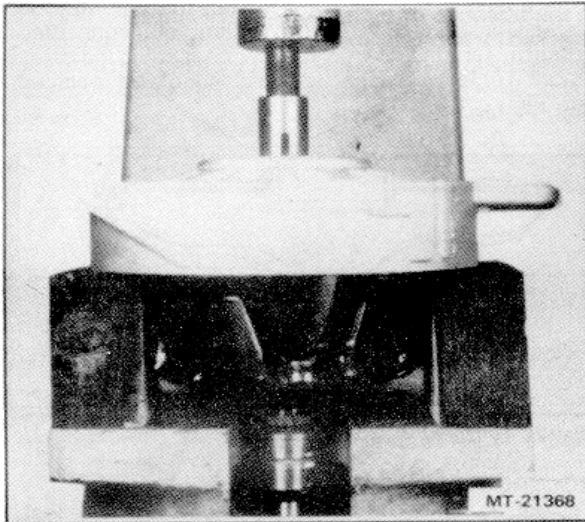

Figure 13 - Removing Drive End Housing From Rotor Shaft.
15. Using a puller or arbor press, remove the drive end housing and bearing assembly from the rotor shaft (See Figure 13).